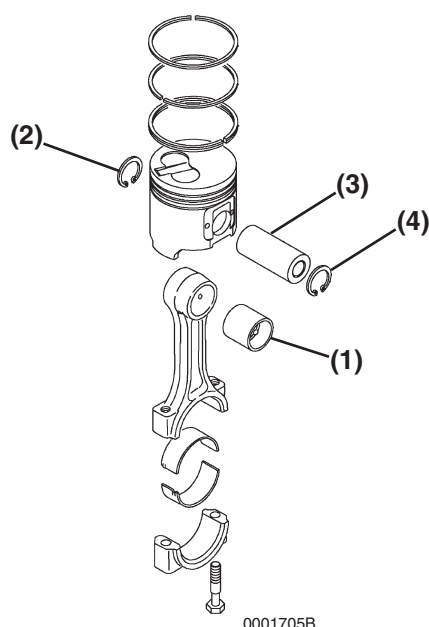

Figure 6-70
2. Lubricate and insert the wrist pin bushing (**Figure 6-70, (1)**) into the small end of the piston rod.
3. Install one circlip (**Figure 6-70, (2)**) into the piston.
4. Position the connecting rod into the piston under the skirt. The match marks on the connecting rod must be opposite of the piston identification mark (ID) on the top of the piston.
5. Lubricate and install the piston wrist pin (**Figure 6-70, (3)**) through the piston and wrist pin bushing.
6. Install the second circlip (**Figure 6-70, (4)**).